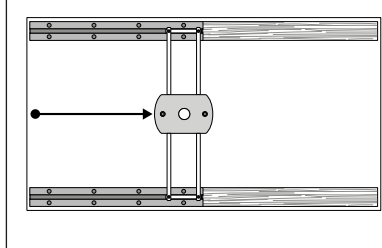

Fig. 4f
- Secure right hand rail with one rail fixing screw – (Fig. 4f)